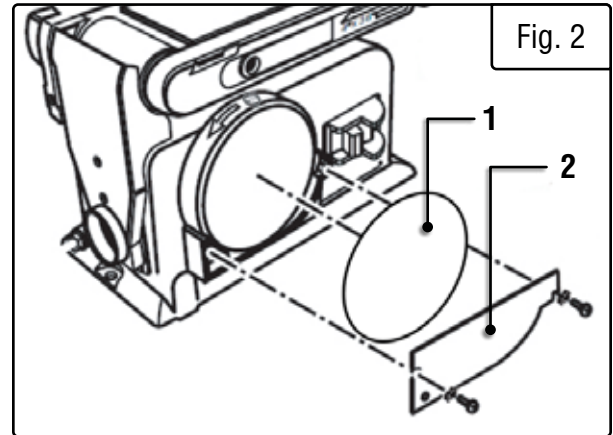

Fig. 2
1. Peel backing away from sanding disc (Fig. 2 - 1).
3. Position disc guard (Fig. 2 - 2) against lower 1/3 of disc, aligning holes as shown. Use a screwdriver to fasten the provided screws and washers securely.